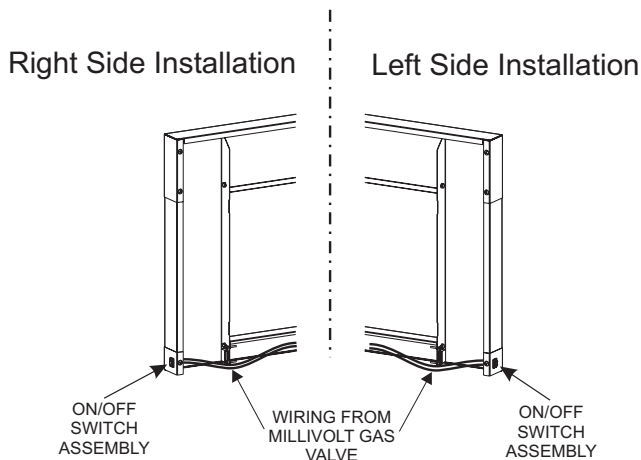

Figure 39
3. Run the low voltage alternate switch wires over to the right or left surround panel. Then secure the wires with wire clips provided. **See Figure 39.**
4. Remove the switch knockout on the side surround panel, then install the ON/OFF switch. **See Figure 39.**